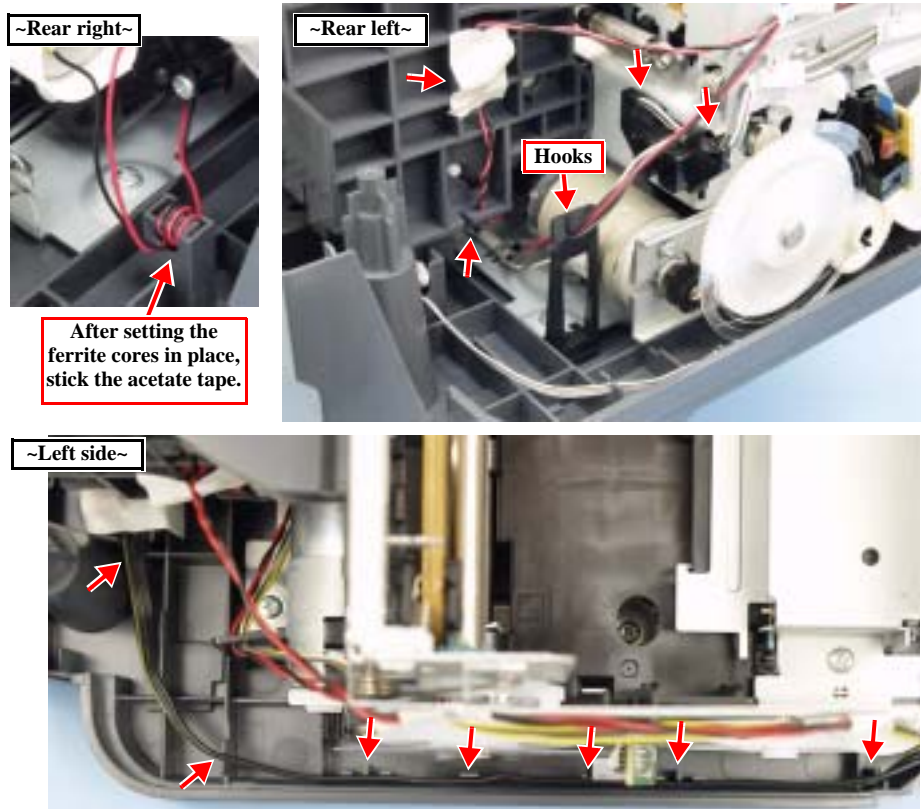
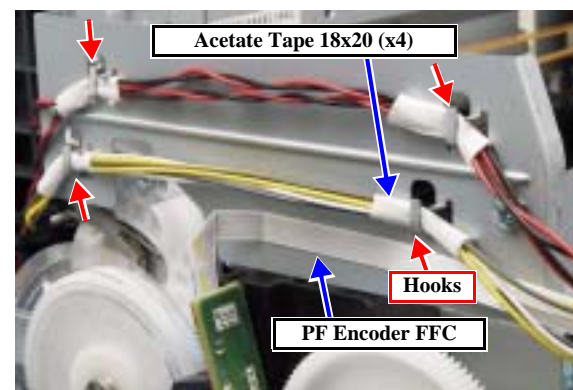

Figure 4-22. Routing the Harness 1
Figure 4-23. Routing the Harness 2
- The harness is routed properly. (*Fig. 4-22*), (*Fig. 4-23*)